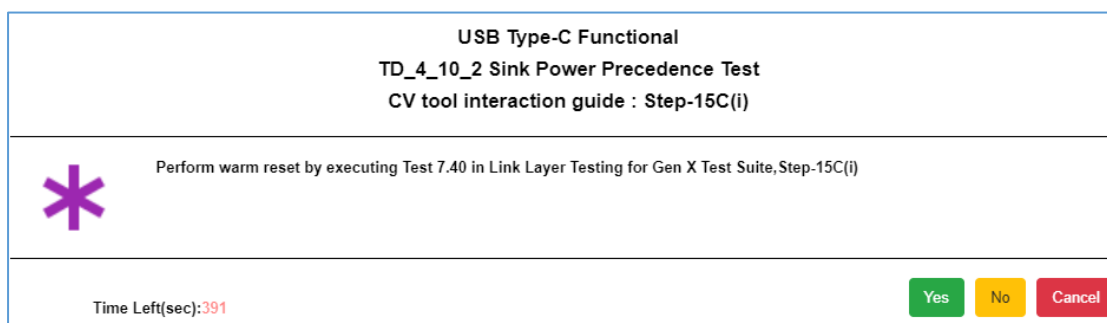

FIGURE 7.19: USER PROMPT TO EXECUTE CTS “TD 7.40 WARM RESET” IN CV TOOL
11. If the test Fails or the user selects “Cancel” in the pop-up message, the user will be required to perform CTS “TD 7.40 Warm Reset” test as prompted by the following pop-up message (Figure 7.19 below) on the GRL-USB-PD-C2-EPR test controller. The user will also need to update the status in the GRL-USB-PD-C2-EPR application pop-up screen.